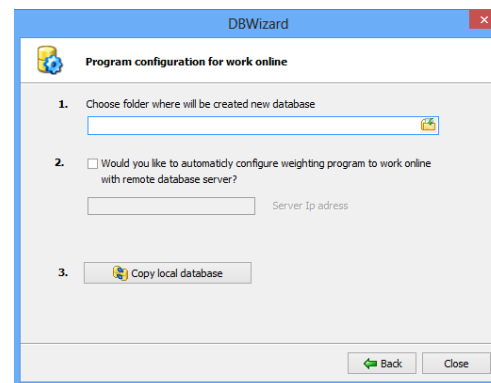

Fig. 35 Copying current database
4. On the second wizard screen select file directory (folder) where the existing database is to be copied (Fig. 35) For this Manual select: "C:\Database".